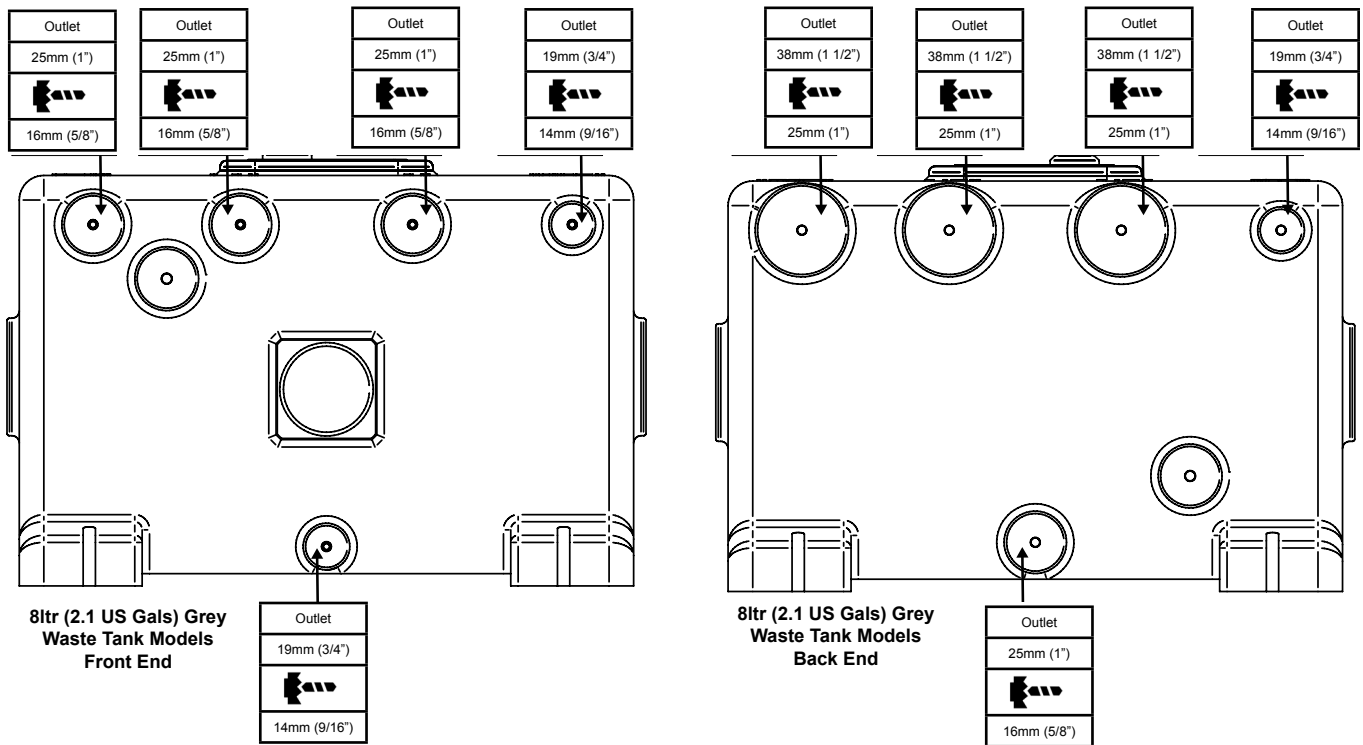
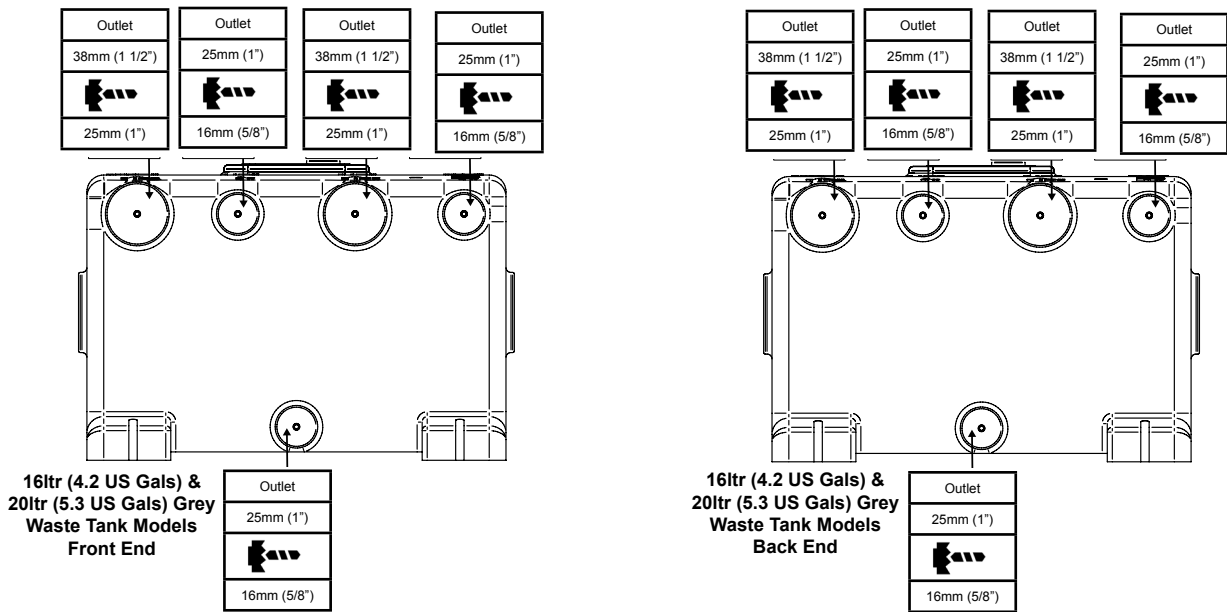

Figure 3 Port Sizes & Recommended Drill Diameters For 8ltr (2.1 US Gals) Grey Waste Tank Models
Figure 4 Port Sizes & Recommended Drill Diameters For 16ltr (4.2 US gals) And 20ltr (5.3 US gals) Tank Models
- Fig. 3 Port Sizes & Recommended Drill Diameters For 8ltr (2.1 US gals) Grey Waste Tank Models
- Fig. 4 Port Sizes & Recommended Drill Diameters for 16ltr (4.2 US gals) and 20ltr (5.3 US gals) Grey Tank Models
**Step 1:** Drill only the ports which are to be used in the installation. Port sizes and recommended drill diameters are shown in Figure 3 for 8ltr (2.1 US Gals) tank models, and Figure 4 for 16ltr (4.2 US Gals) and 20ltr (5.3 US Gals) tank models. Ensure all swarf is removed from inside the tank after drilling.